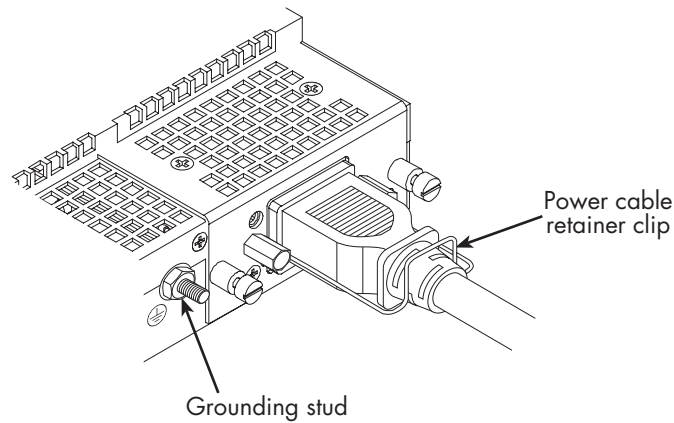

Figure 7. Power cable retainer clip
3. Rotate the power cable retainer clip so it secures the power cable plug in the IEC-320 connector as shown in figure 7.